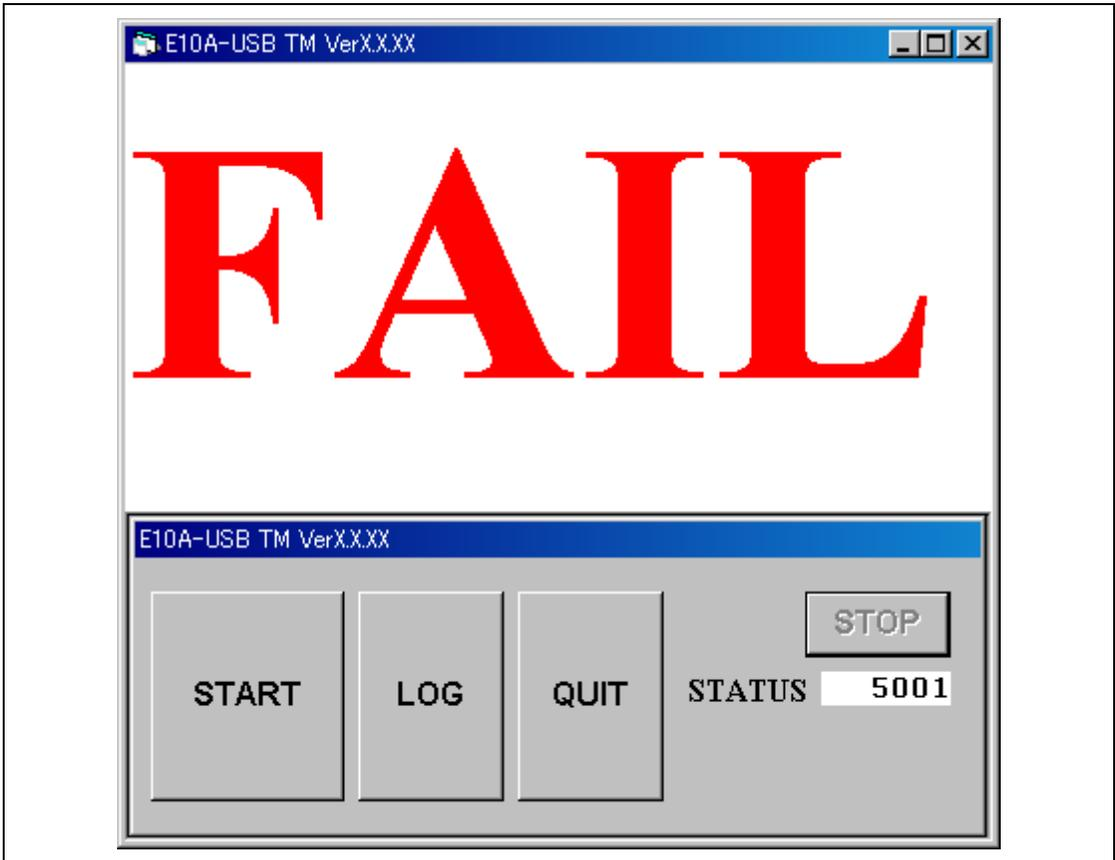

Figure 11 “FAIL” Message
- (4) Figures 11 and 12 show examples when an error occurred. However, if a message “INTERNAL LOOP TEST is failed” is shown and the error status indicates “5001”, the switches of the E10A-USB emulator may have been incorrectly set. Check that those switches of the E10A-USB emulator have been set as follows: SW1 = 1, SW2 = 0, and SW3 = 1.